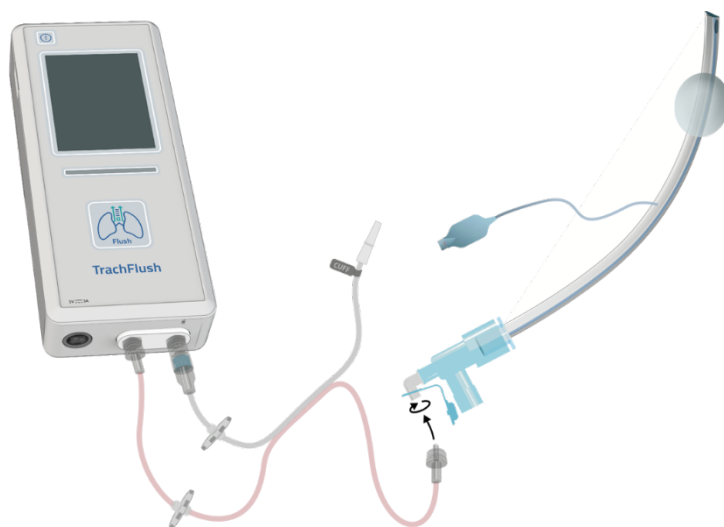

Figure 4: Patient connectivity, connecting Airway Tube
**Step 1:** Connect the Airway Tube (pink tube) connector to the patients airway elbow or straight connector by twisting it on as shown on figure 4.